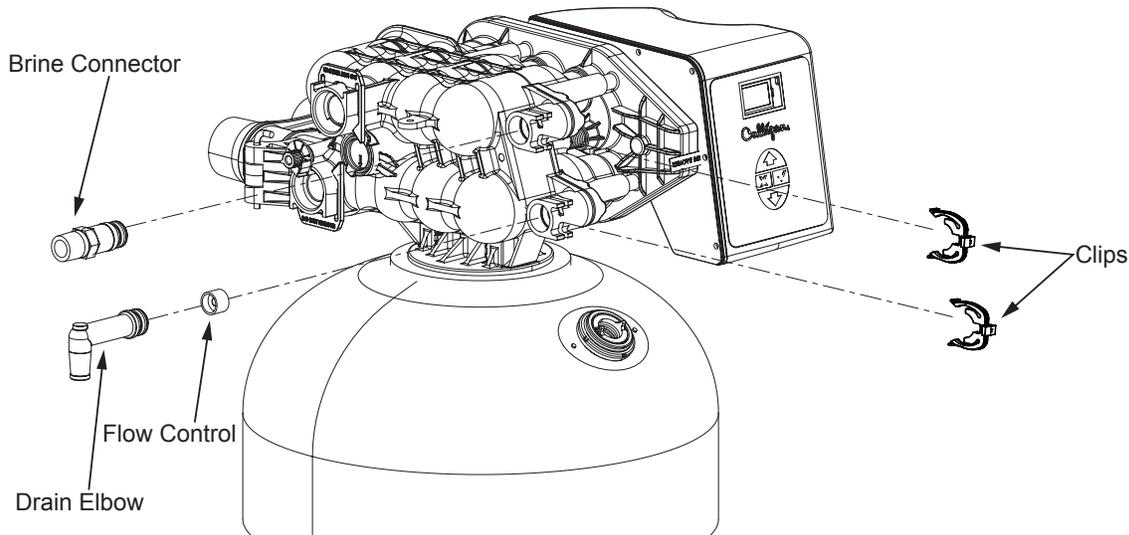

Figure 51. Brine line.
3. Remove the snap clip which retains the brine line adapter and drain line. (Note that it is easier to do this if you first remove the wing-screws that retain the HE electronics enclosure.) See Figure 51.